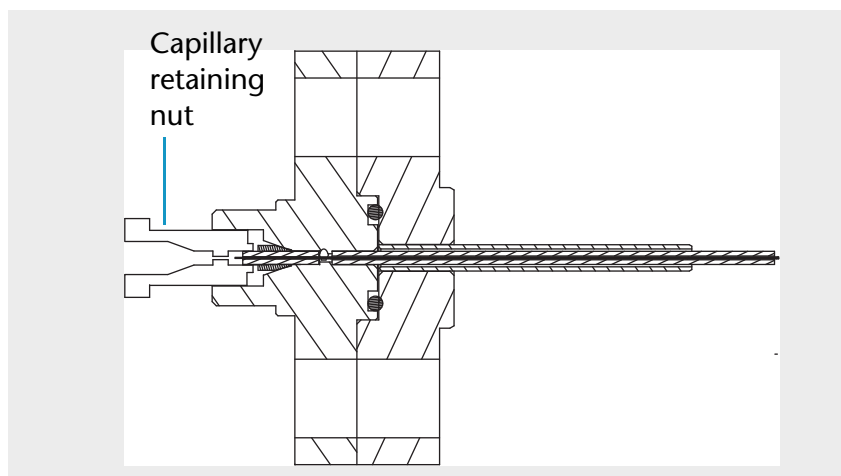

Fig. 51 APCI probe with the capillary retaining nut screwed in finger tight
5. Screw the capillary retaining nut (adaptor) into the probe until fingertight and recheck that the capillary protrudes from the tip of the probe. See Figure 51.